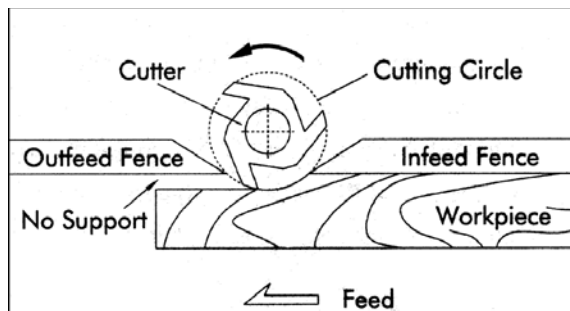
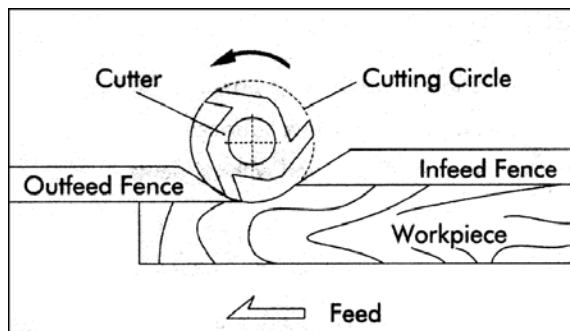

Figure 27
Figure 28
2. When the shaping operation removes the entire edge of the stock, e.g. in jointing or making a full bead, the shaped edge will not be supported by the outfeed fence when both fences are in line, as shown in Figure 27. In this case, the stock should be advanced to the position shown in Figure 27 and stopped. The outfeed fence should then be moved forward to contact the work, as shown in Figure 28. The outfeed fence will then be in line with the cutting circle, and the operation can continue.